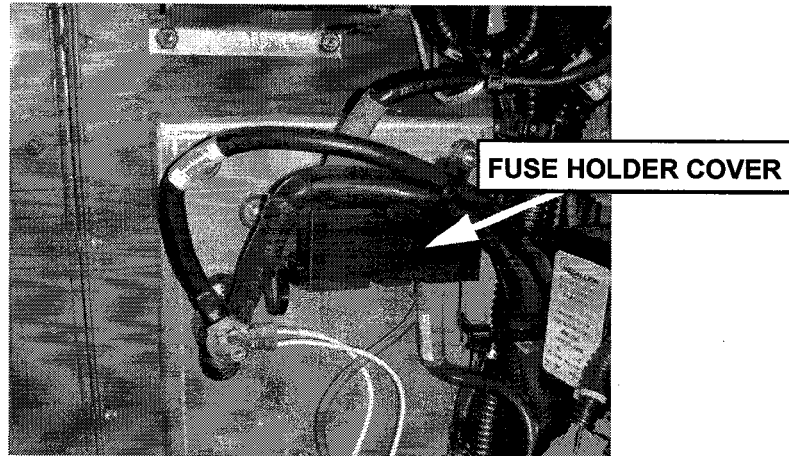

Figure 1-2 Fuse Holder Cover
1. Open the cover from the fuse holder. See **Figure 1-2**